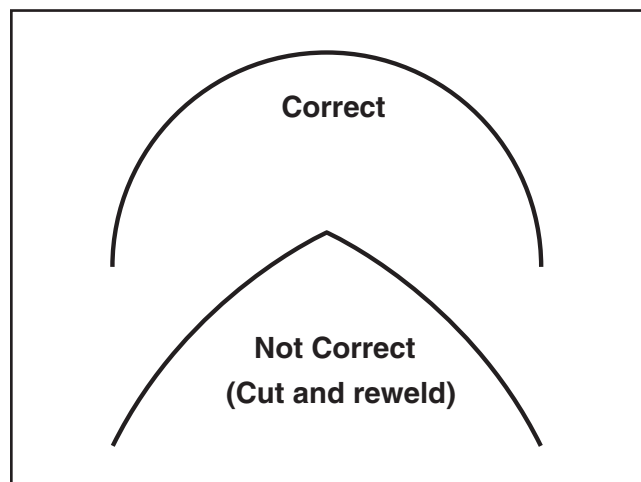

Figure 50. Correct blade weld bend for strength and flexibility.
18. Test the strength and flexibility of the weld by bending the blade in an arc similar to that of the bandsaw wheels. The blade should bend in a smooth circular, rounded shape—rather than a pointed fold (see **Figure 50**).